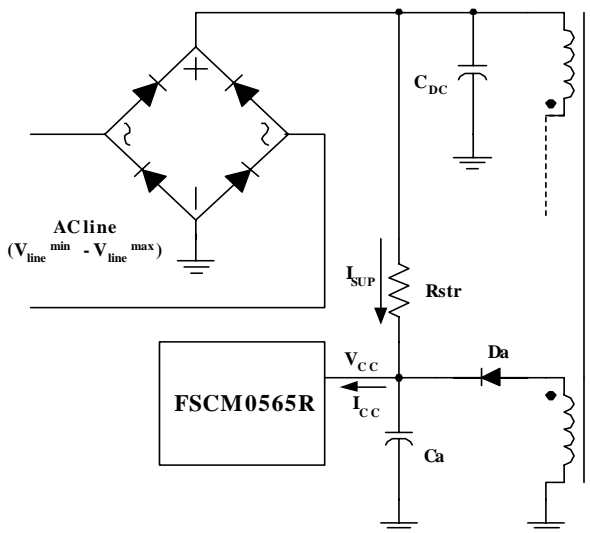
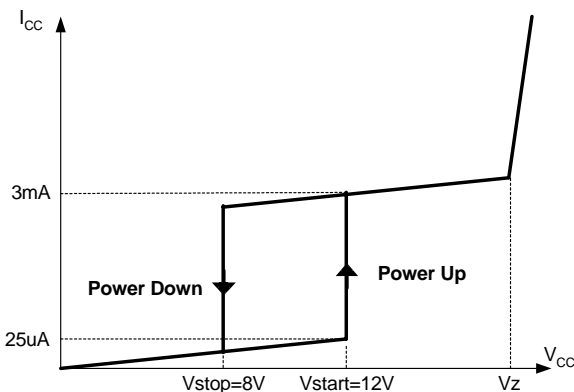

Figure 16. Startup Circuit
Figure 17. Relation Between Operating Supply Current and Vcc Voltage
**1. Startup:** Figure 16 shows the typical startup circuit and transformer auxiliary winding for the FSCM0565R application. Before the FSCM0565R begins switching, it consumes only startup current (typically 25uA) and the current supplied from the DC link supply current consumed by the FPS (Icc), and charges the external capacitor (Ca) that is connected to the Vcc pin. When Vcc reaches start voltage of 12V (VSTART), the FSCM0565R begins switching, and the current consumed by the FSCM0565R increases to 3mA. Then, the FSCM0565R continues its normal switching operation and the power required for this device is supplied from the transformer auxiliary winding, unless Vcc drops below the stop voltage of 8V (VSTOP). To guarantee the stable operation of the control IC, Vcc has under voltage lockout (UVLO) with 4V hysteresis. Figure 17 shows the relation between the current consumed by the FPS (Icc) and the supply voltage (Vcc)